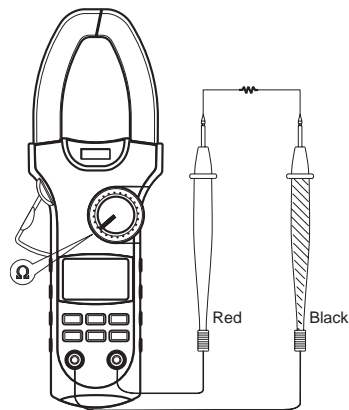

Figure 4
**B.Measuring Resistance** (see figure 4)**⚠ Warning**